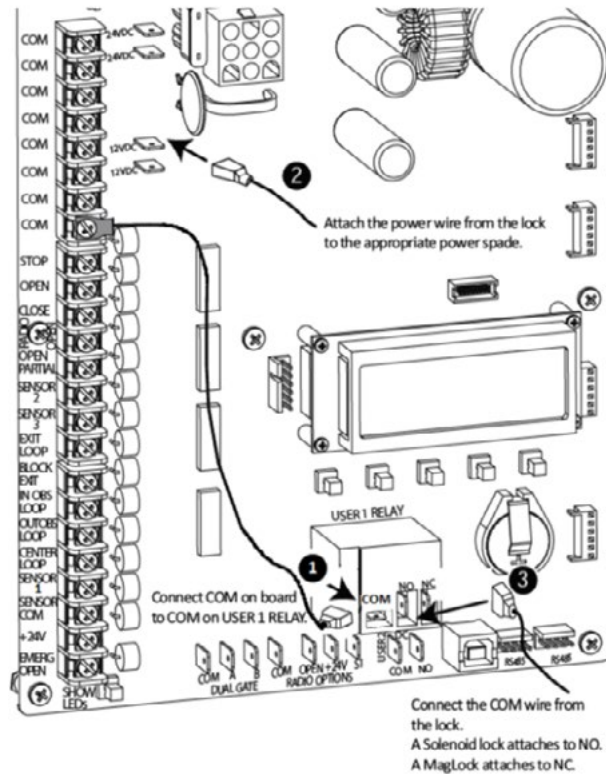

Figure 20. Lock on 12VDC or 24VDC Systems
1. Connect a wire between COM on USER 1 RELAY and a COM terminal on the electronics board. See Figure 20.